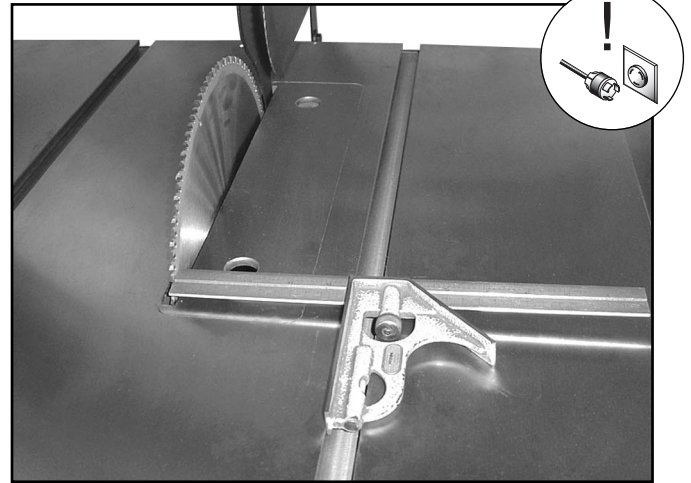

Figure 22. Measuring for parallelism.
4. Rotate the blade 180° and measure the distance between the mark on the blade to the edge of the miter slot as shown in **Figure 22**.